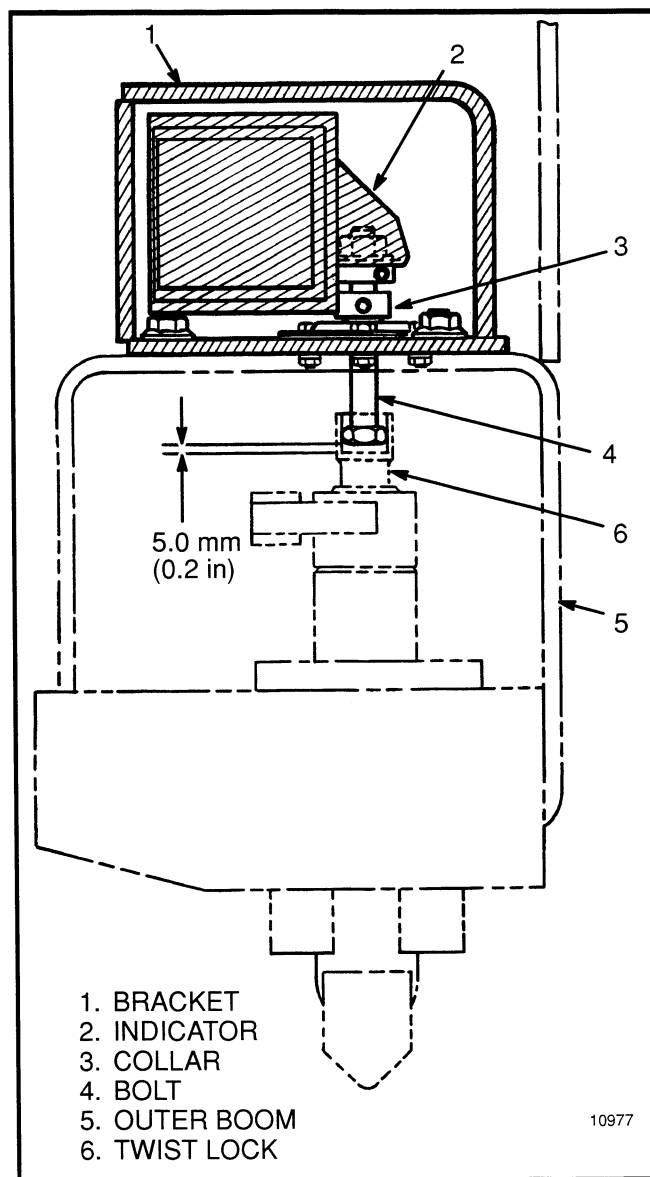

FIGURE 23. ALIGNMENT OF INDICATORS
- c. Install the collar on the bolt. Rotate the collar until it touches the bearing. Make sure there is approximately 5.0 mm (0.2 in) between the bolt and the socket. See FIGURE 22. Also see FIGURE 23. Tighten the set screw on the collar.